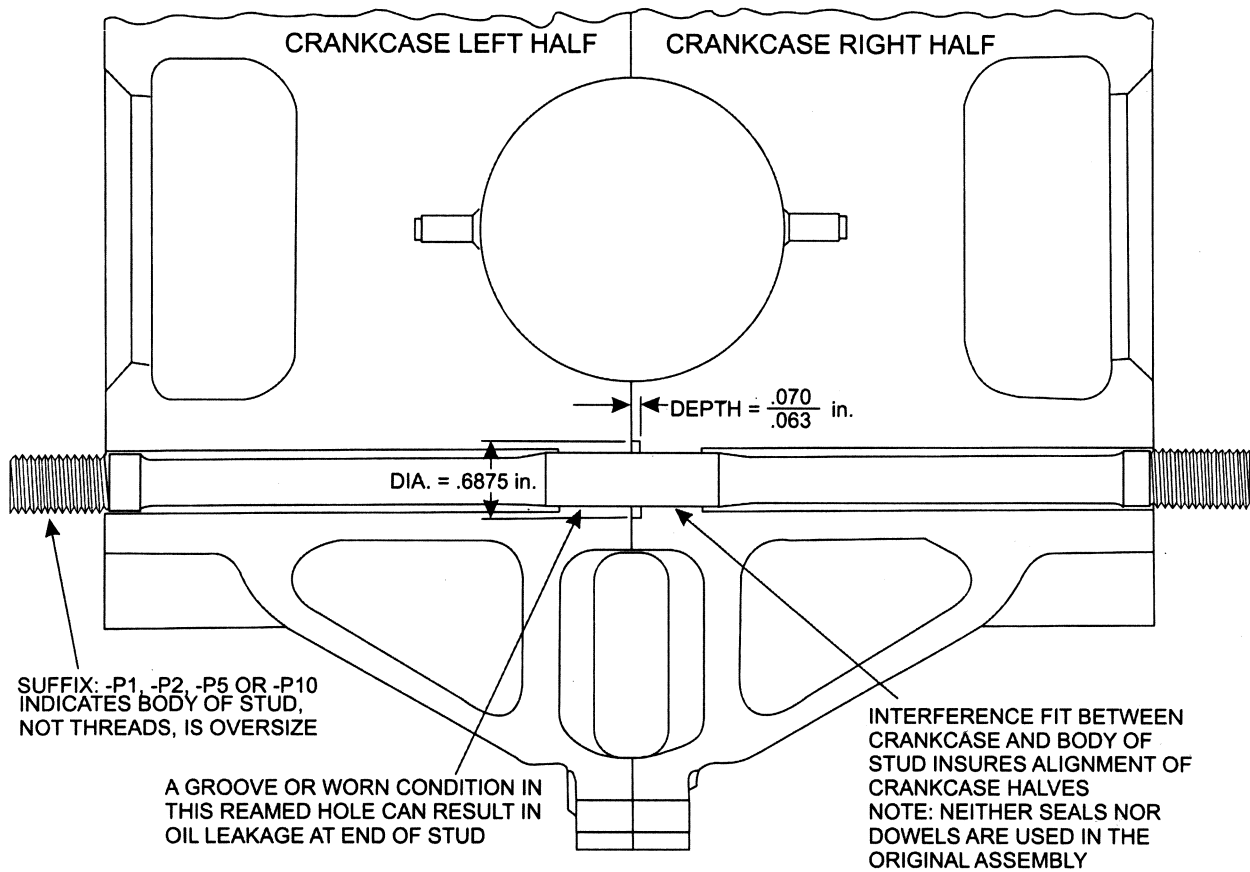

Figure 1. Section Through Crankcase at Thru-Stud Location Showing Dimensions of Recess for the P/N 72075 Oil Seal
Engines listed in the MODELS AFFECTED section of this publication achieve crankcase alignment thru the interference fit of the body-fit-thru-studs and the crankcase thru-stud bores located in the main bearing webs. This interference fit is illustrated in Figure 1 which shows a section through the crankcase at a thru-stud location; note the two halves of the crankcase are supported at the parting surface by the body of the stud. Evidence of oil on the crankcase or cylinder mounting flange which can be traced to a thru-stud location indicates that the seal formed by the interference fit between the stud and the crankcase is incomplete. This can be the result of an oversized bore or a groove traced in the bore during installation of the thru-stud.
ANCHORED THRU-STUDS, SIMILAR TO THE STUDS USED WITH STANDARD CYLINDER FLANGE ENGINES, WERE USED ON WIDE CYLINDER FLANGE ENGINES DURING THE EARLY DEVELOPMENT STAGES OF THIS TYPE CRANKCASE. HOWEVER THE DRIVE-THRU BODY-FIT THRU-STUD THAT IS NOW USED ON ALL WIDE CYLINDER FLANGE ENGINES PROVED TO BE A MORE EFFECTIVE METHOD OF CONTROLLING CRANKCASE FRETTING AND OIL LEAKS. A FEW CRANKCASES THAT WERE MACHINED TO ACCEPT THESE ANCHORED THRU-STUDS HAVE BEEN MODIFIED TO INCORPORATE THE DRIVE-THRU BODY-FIT THRU-STUD BORES. THESE BUSHINGS DO NOT AFFECT THE PERFORMANCE OR RELIABILITY OF THE CRANKCASE, HOWEVER, IF A CRANKCASE THAT INCORPORATES THESE BUSHINGS IS TO BE MODIFIED TO INCORPORATE "O" RING SEALS AS DESCRIBED IN THE FOLLOWING STEPS, CAREFUL ATTENTION MUST BE PAID TO THE SECTION OF BUSHING THAT REMAINS AROUND THE O.D. OF THE "O" RING RECESS. THESE BUSHINGS ARE PRESSED INTO A BORE THAT IS REAMED TO A DIAMETER OF .7030 INCH. AS CAN BE SEEN IN FIGURE 1, THE DIAMETER OF THE "O" RING RECESS IS .6875 INCH, THIS LEAVES A BUSHING WALL THICKNESS OF APPROXIMATELY .007 TO .008 INCH AROUND THE RECESS. IF THIS THIN SECTION OF BUSHING REMAINS INTACT AFTER THE "O" RING RECESS IS CUT, IT CAN REMAIN IN THE CRANKCASE, BUT IF IT APPEARS DAMAGED, TORN OR CRACKED, IT MUST BE REMOVED. REMOVING THIS SECTION OF METAL FROM THE RECESS WILL NOT AFFECT THE SEALING CAPABILITIES OF THE "O" RING SEAL.
3. Assemble the P/N ST-463-5 stop collar on the ST-463-1 counterbore. Set the stop collar to allow the counterbore to cut to a depth of .063/.070 inch. Refer to Figure 1.
6. Measure the depth of the recess with a depth micrometer. Insure the depth is within the dimensions specified in step 3 and illustrated in Figure 1.